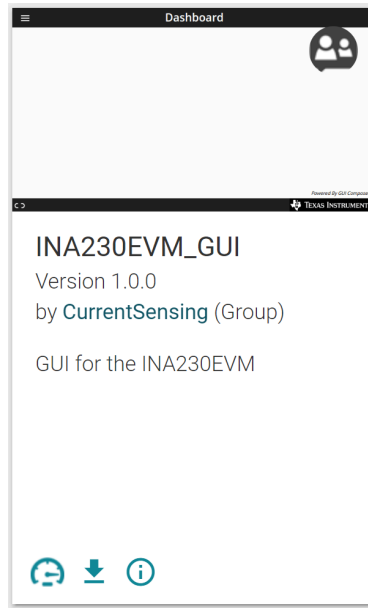

Figure 3-2. GUI Composer Application
3. Open the *GUI Composer* application to launch the GUI from the web browser (see Figure 3-2).
4. Optionally, to download the GUI for offline use, click the  icon in the GUI Composer application and follow the prompts (see Figure 3-2).